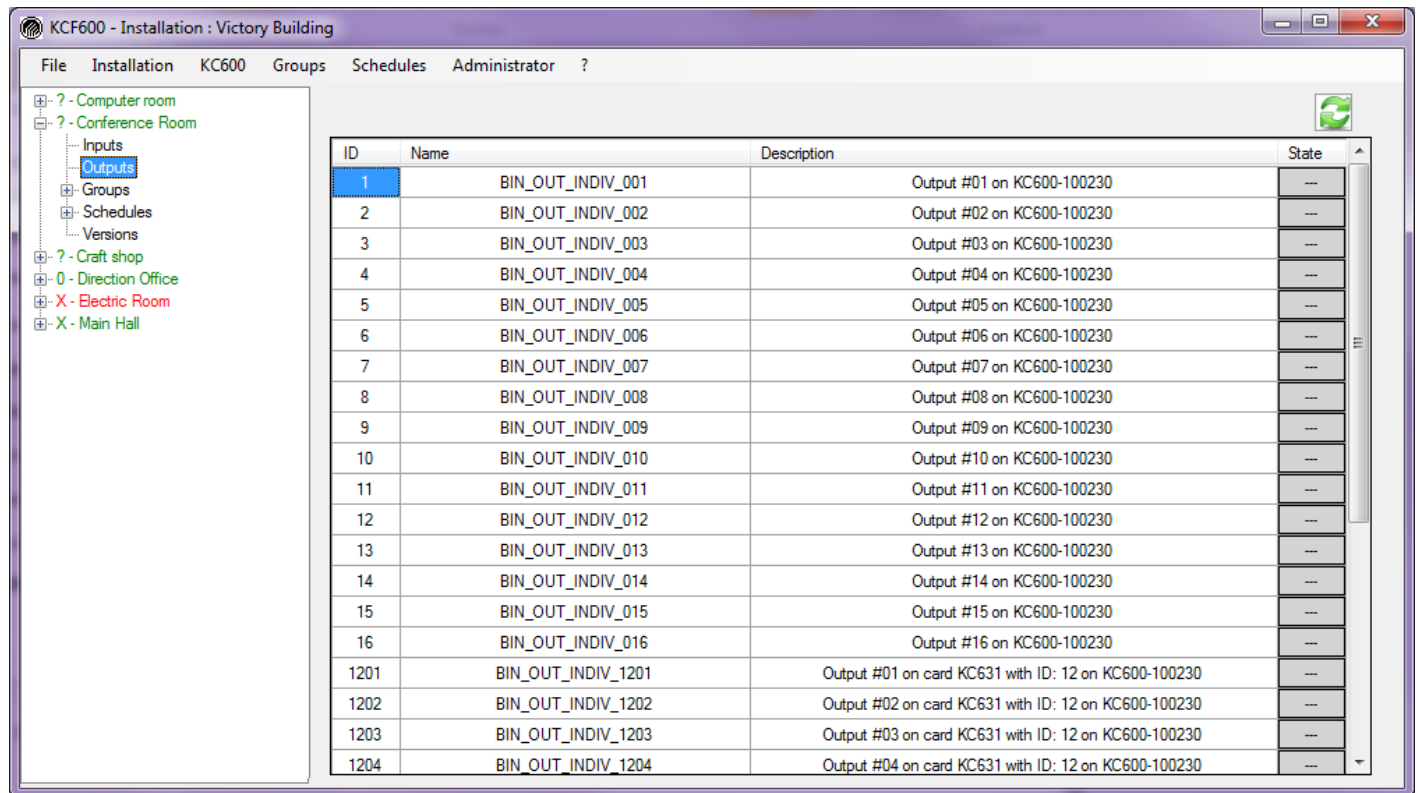

Figure 25: Window showing the list of outputs in a *KC600* and their main parameters.
**Example:** On *Figure 25*, we can see binary outputs with numbers between 101 and 105, which refers to a *KC631* card with a *Modbus* address set to: “1”.